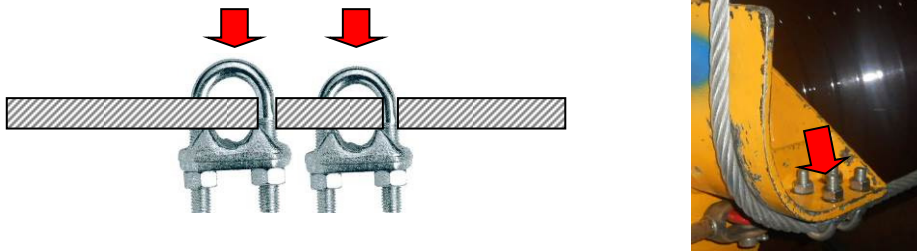

Fig. 16
- Now the two wire ropes (PART 3) connecting the head (PART 2) and the collar (PART 1) must be stretched (fig. 16), by means of the two turnbuckles for each wire, in order to avoid that during the bushing's lifting operations the two wire ropes can move.